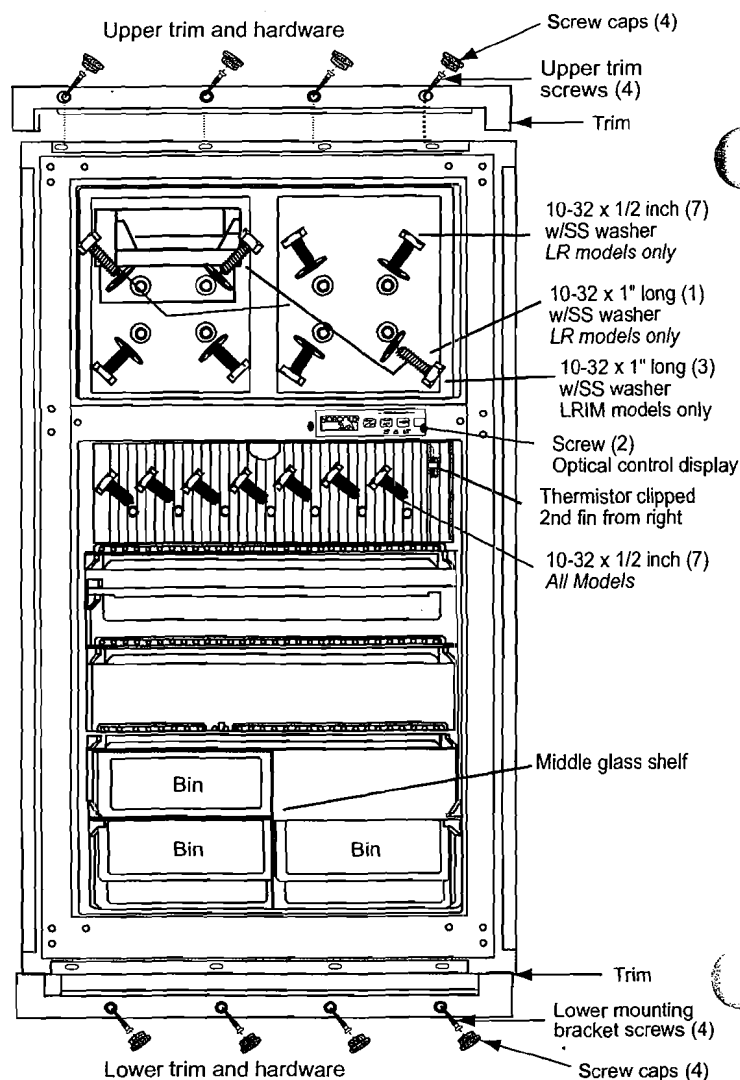

Figure 5. Hardware and parts to be removed.
15. Unclip the thermistor from fin assembly. See Figure 5.
16. Remove the eight freezer evaporators' screws. See Figure 5 for details according to LR and LRIM models.
17. Remove the fin assembly screws. See Figure 5.
18. Remove the optical display control. Unplug from harness after removing Phillips head screws. See Figure 5.
19. Remove the upper trim. Location of upper trim and hardware is shown in Figure 5.
20. Remove the lower trim. Location of lower trim and hardware is shown in Figure 5.